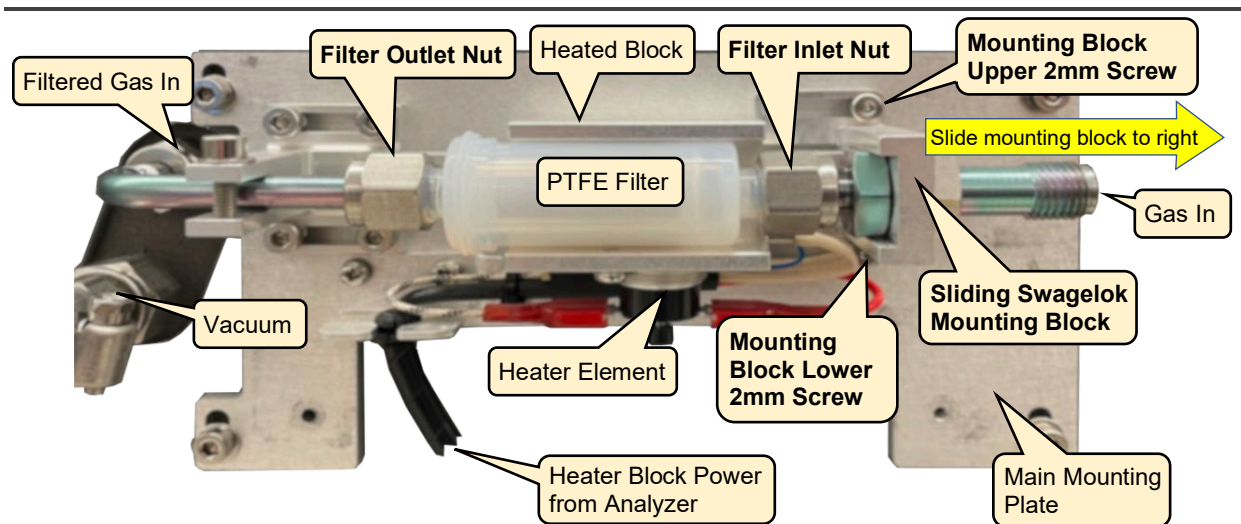

Figure 28: PTFE Filter Mounting Assembly (Filter Housing Removed)
5. Using a 9/16" open-end wrench, loosen the left (outlet end) nut while gently holding the filter body with the pliers (Figure 28), then hand-turn the 9/16 nut to remove it completely from the filter.
2. Carefully align and hand-tighten the left (outlet) nut to be sure it is threaded correctly. Use a 9/16" open-end wrench and pliers to tighten (Figure 28).